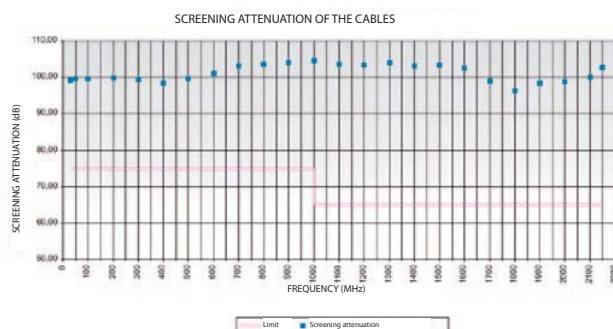

Fig.1 Graph of screening attenuation
■ **Braid interlacing:** the interlacing is one of the characteristics that can influence more the quality of the shielding. Its effectiveness can be measured by the screening attenuation (Fig.1).